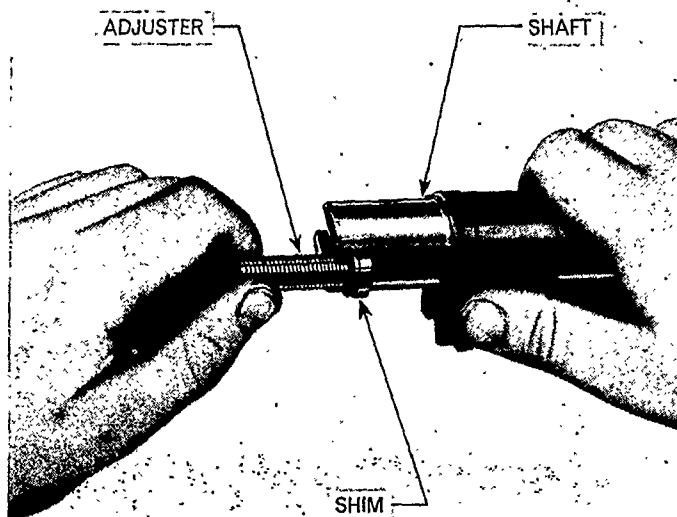

Figure 45
9. Select the appropriate adjuster shims to give 0.000 in.-0.0002 in. (0.0000-0.0051 mm.) clearance between the heads of the adjusters and the base of the 'T' slot in the rocker shaft, Figure 45.